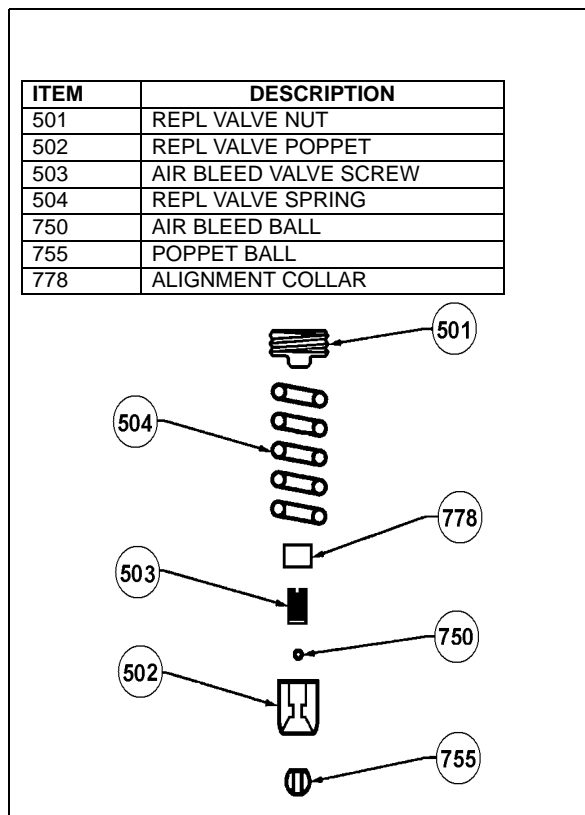

FIGURE 14. Pressure Relief/Air Bleed Assembly (Size B & C).
17. The air bleed and pressure relief valve are removed by backing out large slotted screw from stem of plunger housing. (Count number of turns needed to remove screw and record). Note the orientation of the components as shown in Figure 14.